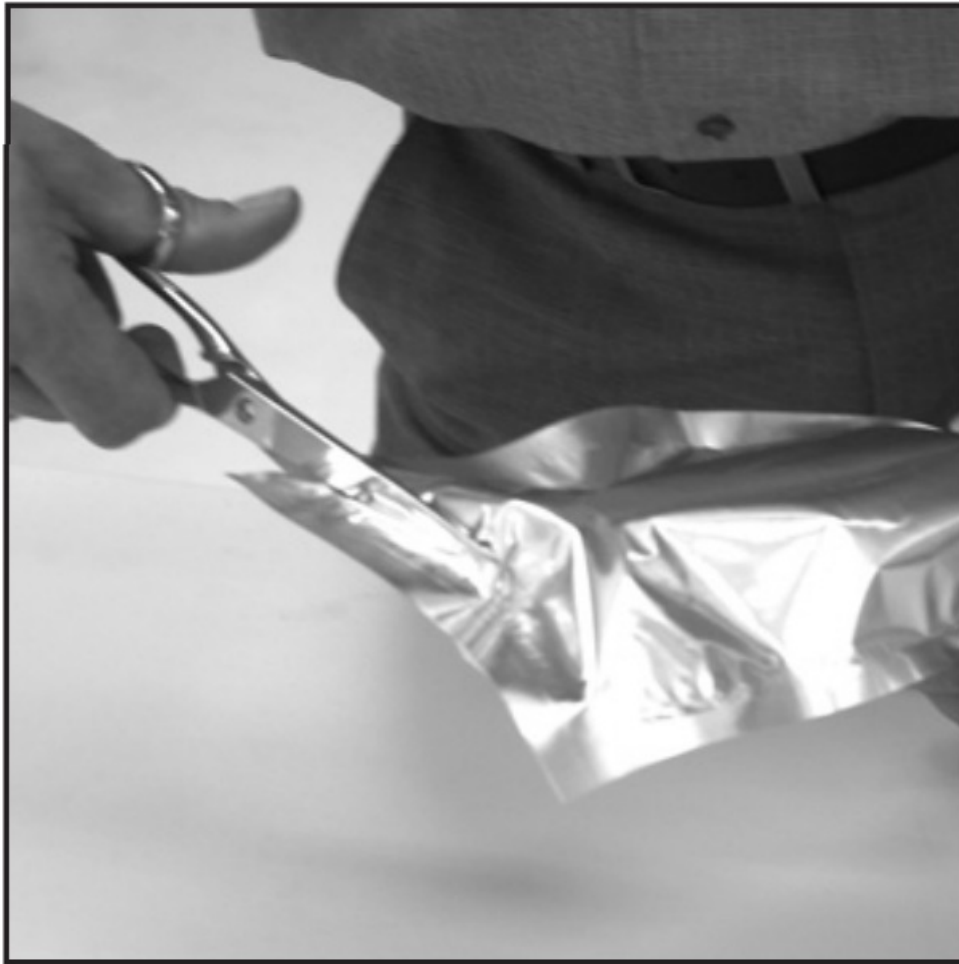

Fig. 17
- **VI.** Open the protective covering of the new limescale protection unit and remove it from the packaging using the hygiene gloves supplied (see Fig. 17).